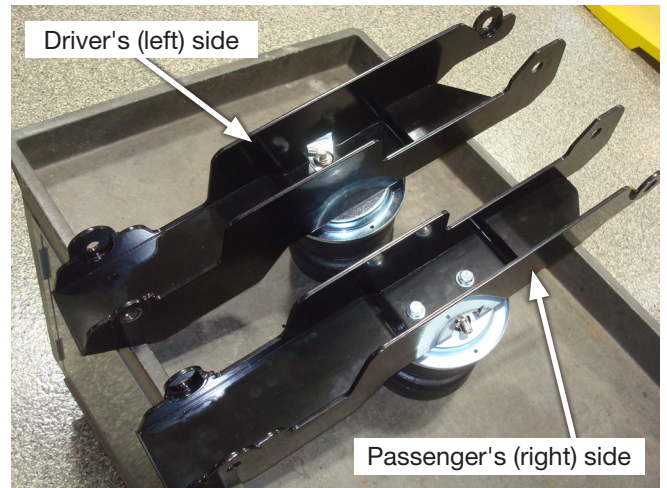

Fig. 13
4. Figure 13 shows both left-hand and right-hand upper air spring assemblies.